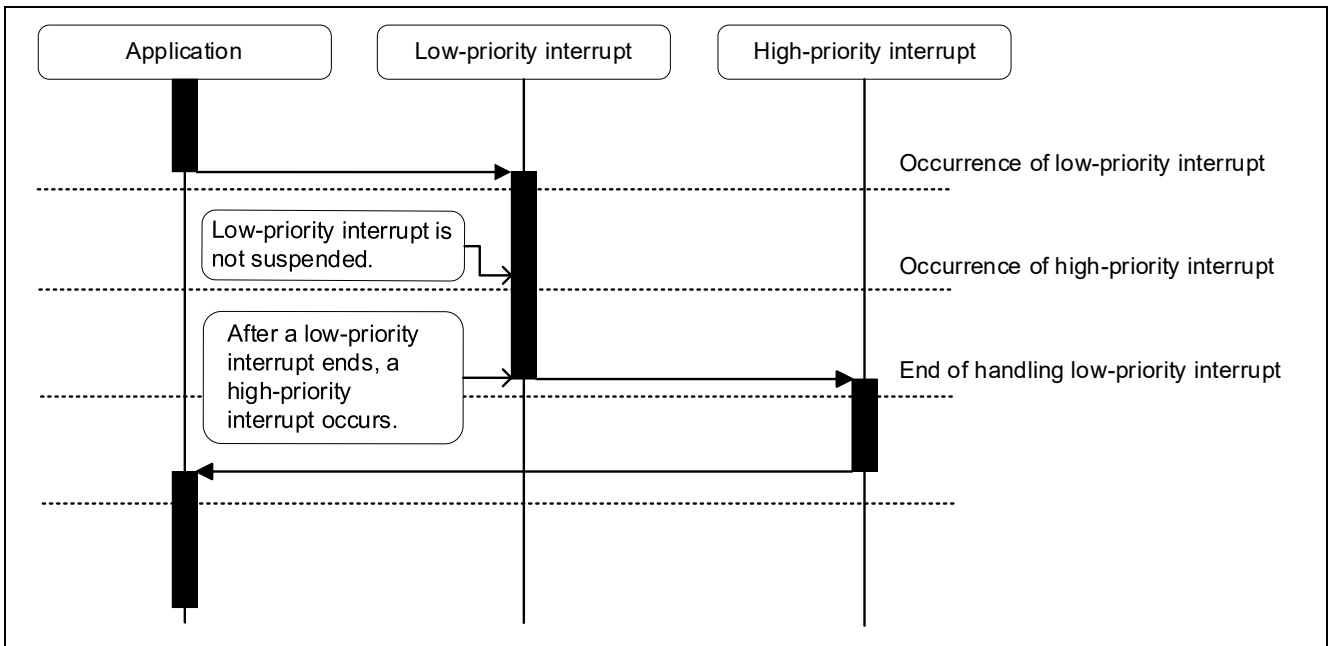
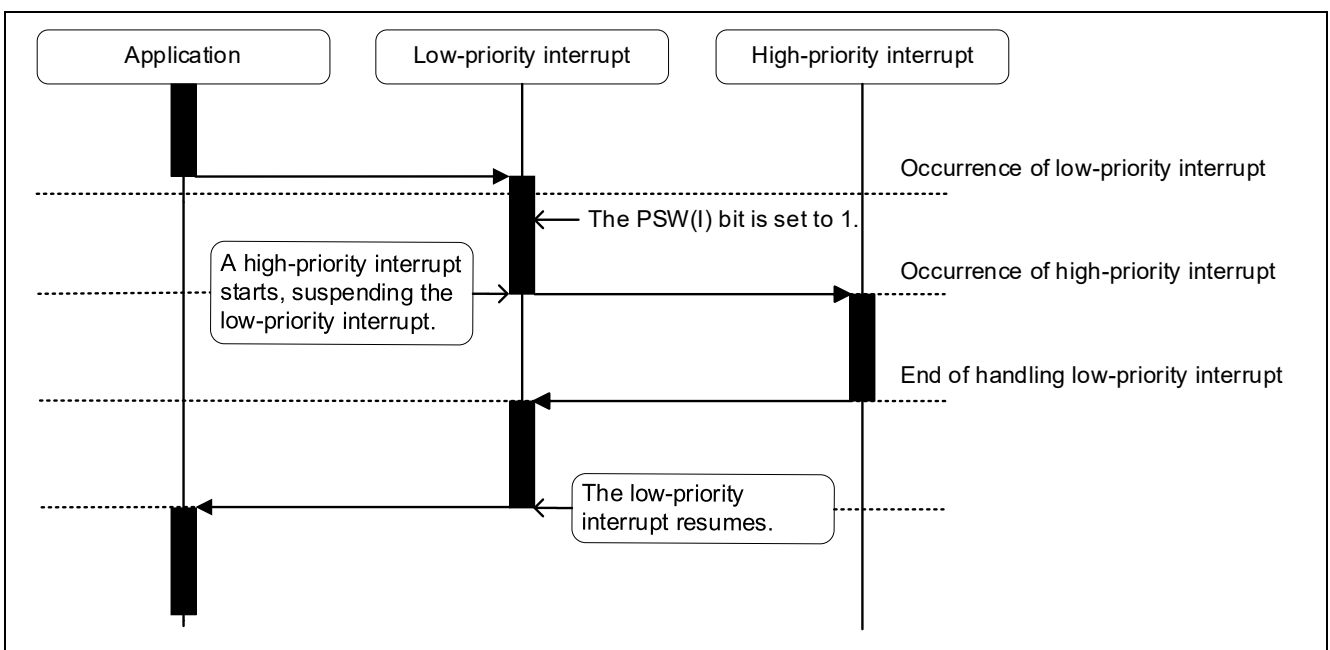

Figure 1.16 Interrupt Handling Sequence on the RX261 Device (when the PSW(I) bit is cleared)
Figure 1.17 Interrupt Handling Sequence on the RX261 Device (when the PSW(I) bit is set)
The RX261 device supports multiple interrupts. To handle multiple interrupts on the RX261 device, it is necessary to set the PSW(I) bit to 1 (enable interrupts) in the interrupt handler. Figure 1.16 shows the sequence of operations performed when multiple interrupts are prohibited. Figure 1.17 shows the sequence of operations performed when multiple interrupts occur.